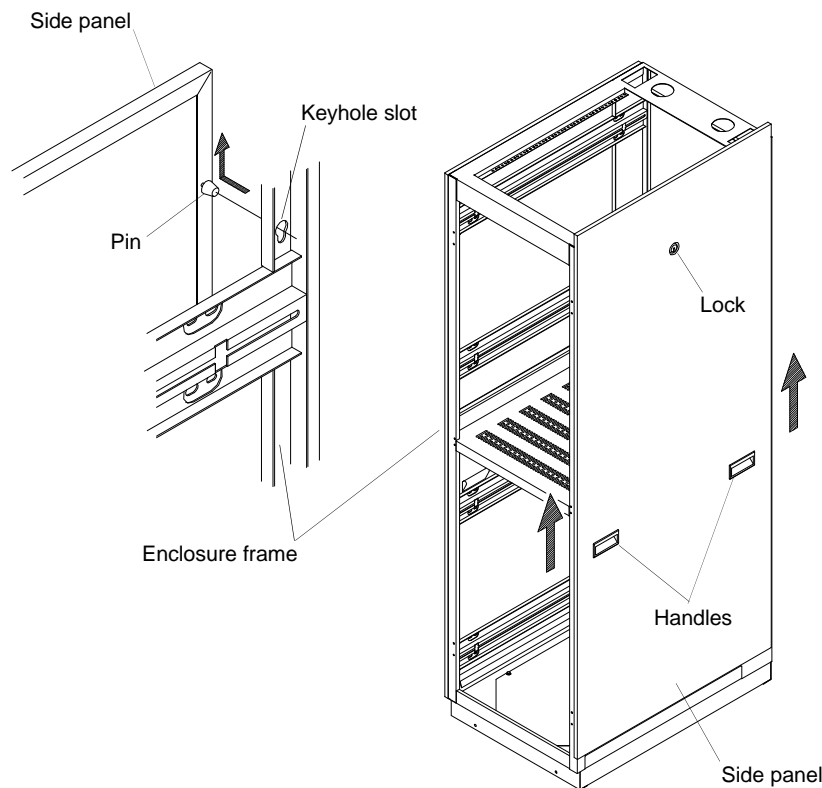

Figure 2
1. Vantage Enclosures have removable **Side Panels**. To remove a panel, first unlock it and the lift the panel straight up using the handles. This will disengage the pins (located on the inside of the panel) from the keyhole slots in the enclosure frame. See figure 2.